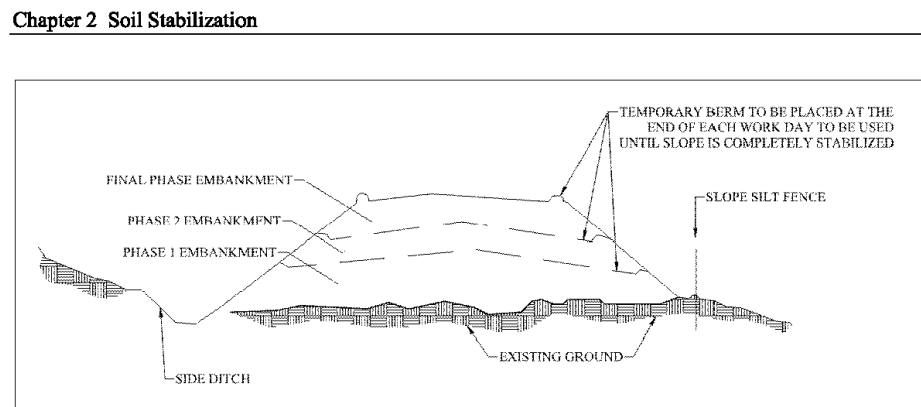

Figure 2.2 Incremental stabilization - fill.
- THE CONSTRUCTION SEQUENCE IS AS FOLLOWS (REFER TO FIGURE 2.2):
- EXCAVATE AND STABILIZE ALL TEMPORARY SWALES, SIDE DITCHES, OR BERMS THAT WILL BE USED TO DIVERT RUNOFF AROUND THE FILL. CONSTRUCT SLOPE SILT FENCE ON LOW SIDE OF FILL AS SHOWN IN FIGURE 2.2, UNLESS OTHER METHODS SHOWN ON THE PLANS ADDRESS THIS AREA.